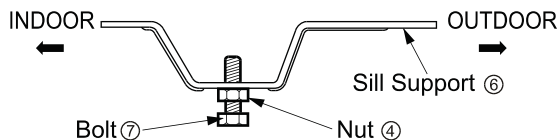

Fig. 3
3. Remove the White Styrofoam shipping block from the compressor. (Fig.3)
3. Loosely assemble the Sill Support^⑥ using the parts. (Fig. 3)